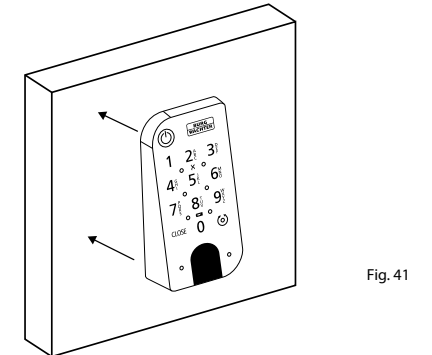

Fig. 41
- 3 Mount the keypad on the wall in the desired position (Fig. 41).